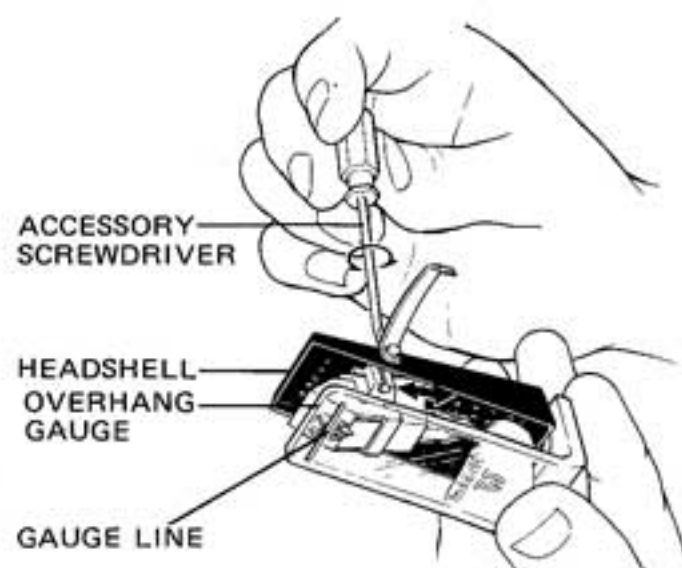

Fig. 2
4. Set the headshell into the accessory overhang gauge as shown in Fig. 2. Adjust the cartridge position so that the stylus tip is aligned with the gauge line. Finally, tighten the cartridge mounting screws.